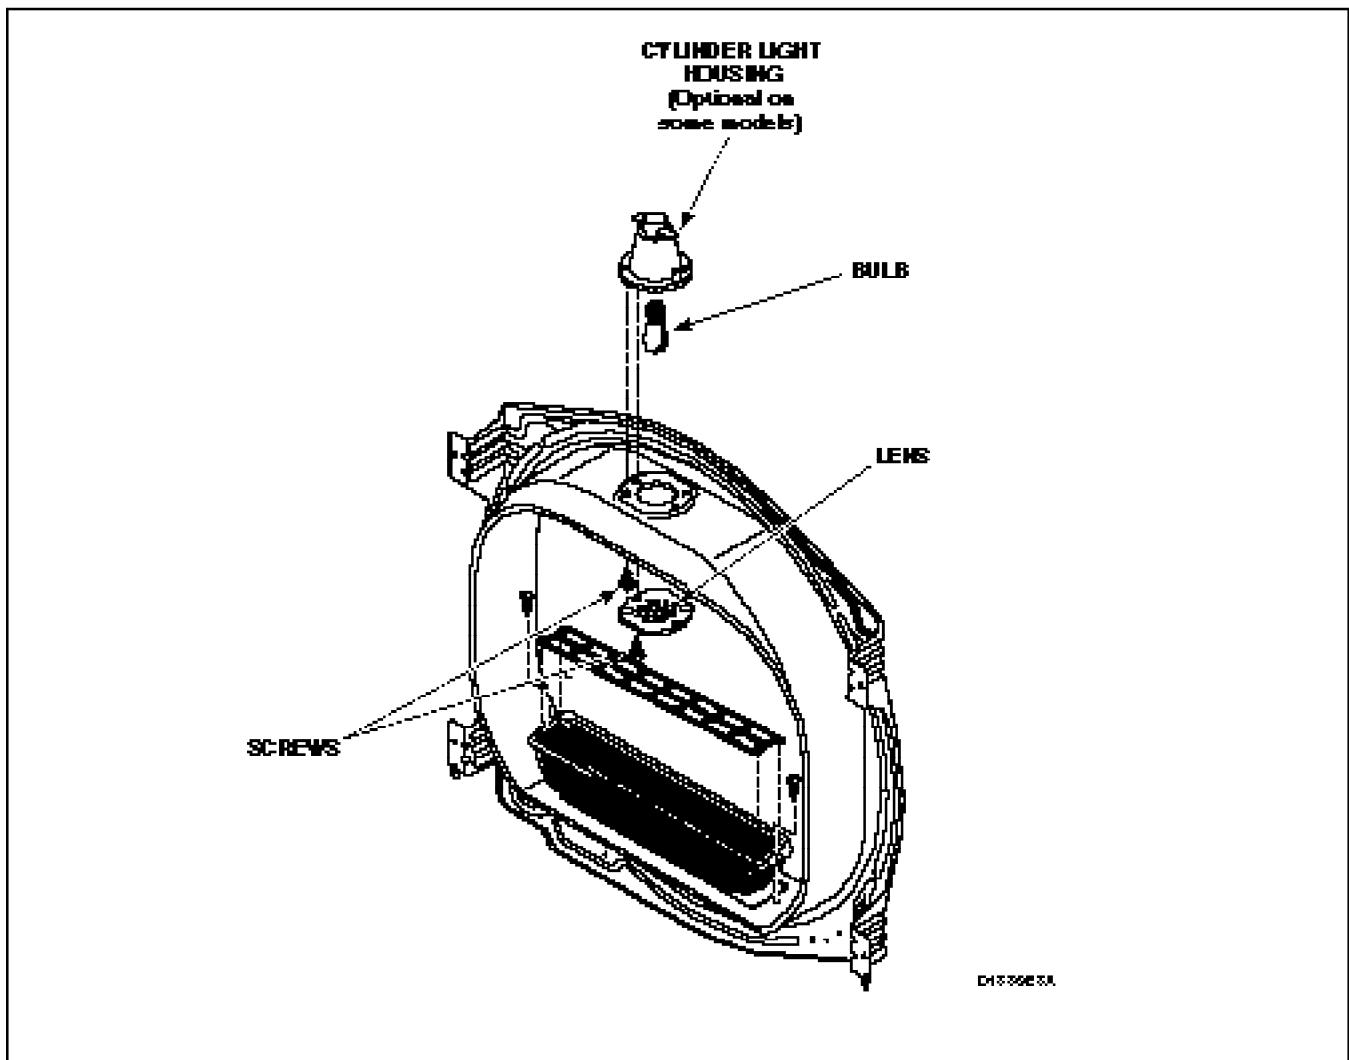

Figure 36
32. CYLINDER LIGHT (Figure 36)
- Open loading door and remove screws holding the lens to the front bulkhead, Figure 36.
33. CYLINDER LIGHT RECEPTACLE (Figure 36)
- Remove two screws holding receptacle to front bulkhead, Figure 36.